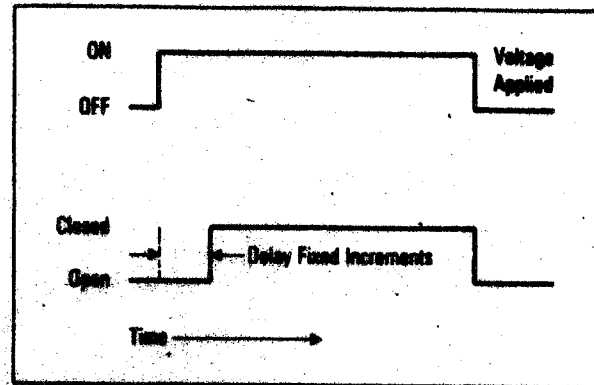

Fig. 3 ON Delay Timing Sequence (TF-56)
3. Wire the interlock in accordance with Fig. 3.